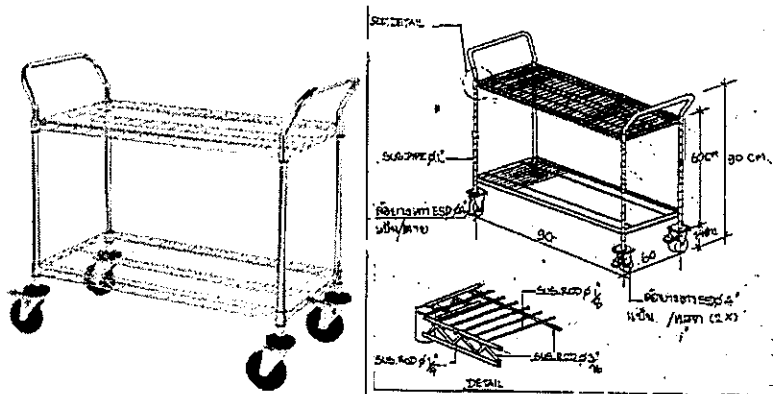

Figure 17: Example of Two-tier Stainless-Steel Trolley*
- 5.3 Two-tier stainless-steel trolley with dimensions greater than or equal to 60 cm long x 90 cm wide X 90 cm high (example in Figure 17) (3 sets)